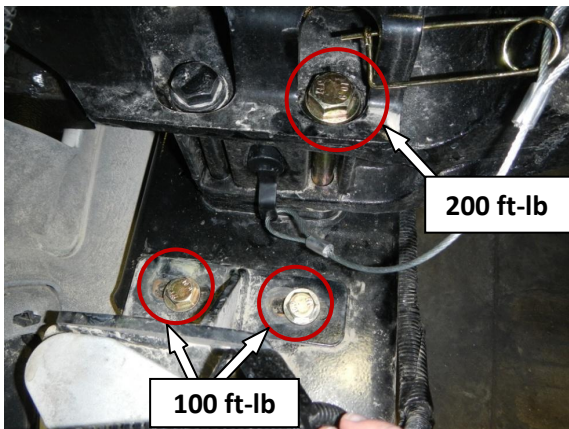

Figure 11 – Driver's side shown
7. With hood of the truck open, tighten four M12 factory bracket bolts to 80 ft-lb, and two M16 tow receiver bolts to 200 ft-lb (Figure 11).